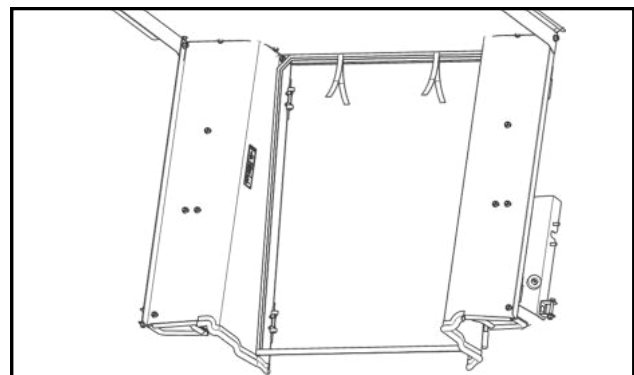

Fig. 11.4 (Upper Rear Curtain, PC or EN cab)
**11.4** See fig. 11.4. Pre-install the supplied Velcro hook to the sewn-in Velcro loop on the upper three sides of the upper rear curtain. Leave the release tape on until the filler is in place.